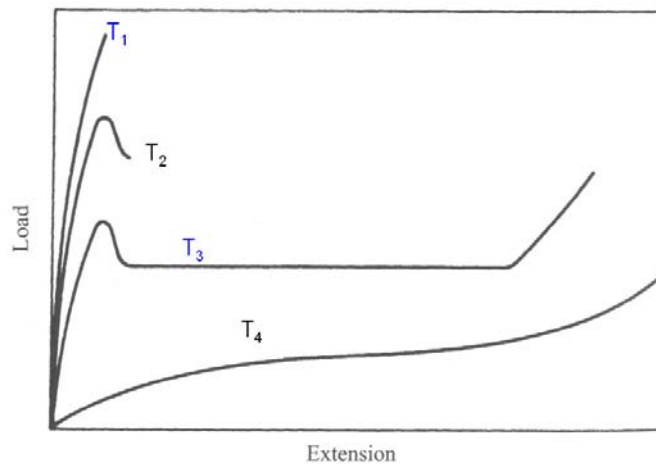

Figure 2: Load vs. extension of various types of polymers
- [c] Figure 2 shows a tensile load vs. extension curves for various types of polymers. Assumption: Temperature for $T_1 < T_2 < T_3 < T_4$.